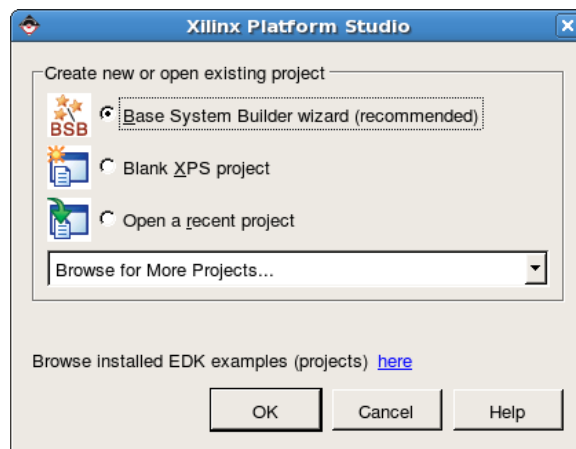

Figure 2: Begin Base System Builder
- (c) Once XPS comes up, select 'Base System Builder wizard' in first prompt (Figure 2). Hit 'OK' to continue.